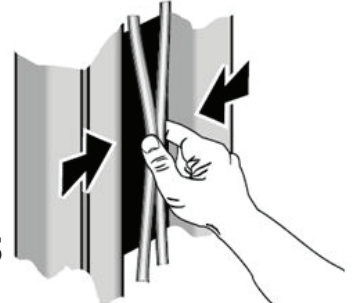

Fig. 15
- Raise the carriages to check the equalizer cable tension by grasping the adjacent cables between the thumb and the forefinger so that you can just pull the cables together (ref. fig. 15);